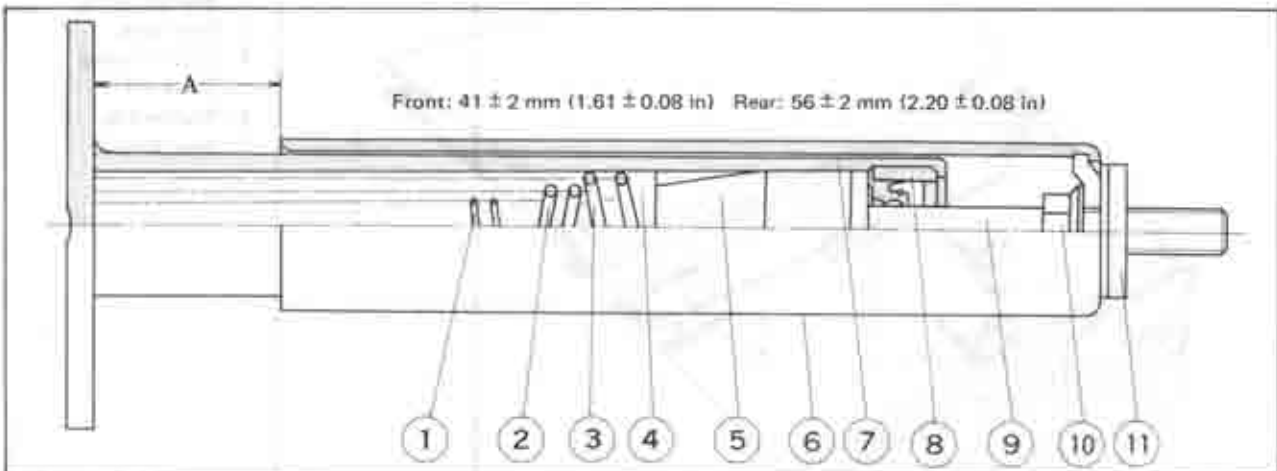

Fig. 14-12 Shock absorber
To check the shock absorber, measure the dimension (A) shown in Fig. 14-12.